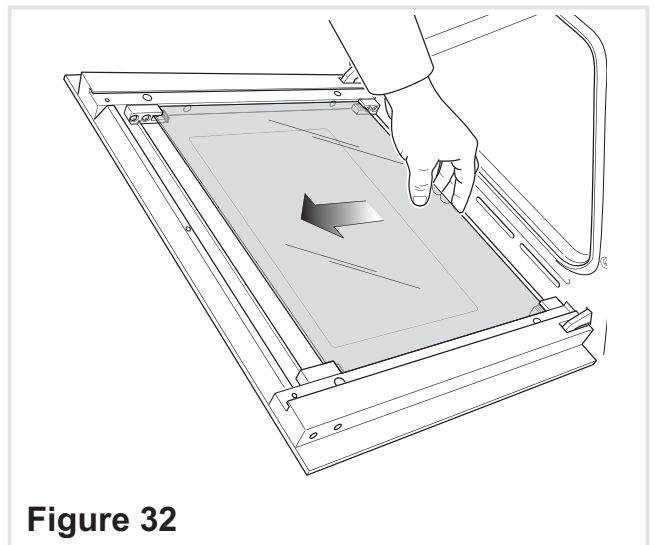

Figure 32
- Gently unlock the middle pane of glass from the bottom clamps by moving it as in fig. 32.